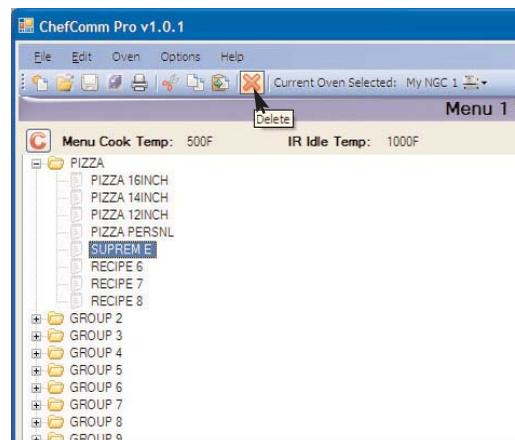

Figure 21: Delete Recipe from Menu
4. Click the “Delete” icon (Figure 21).